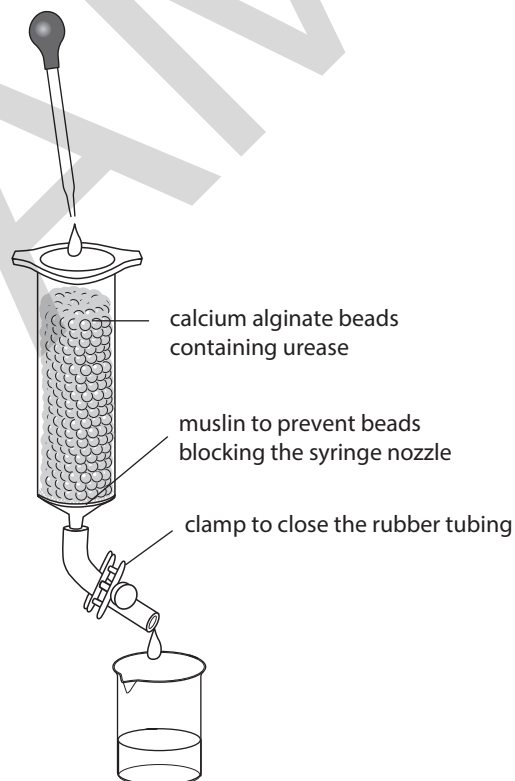

Figure 3.4
- 2 Support the syringe barrel, nozzle downwards, in a clamp (Figure 3.4).